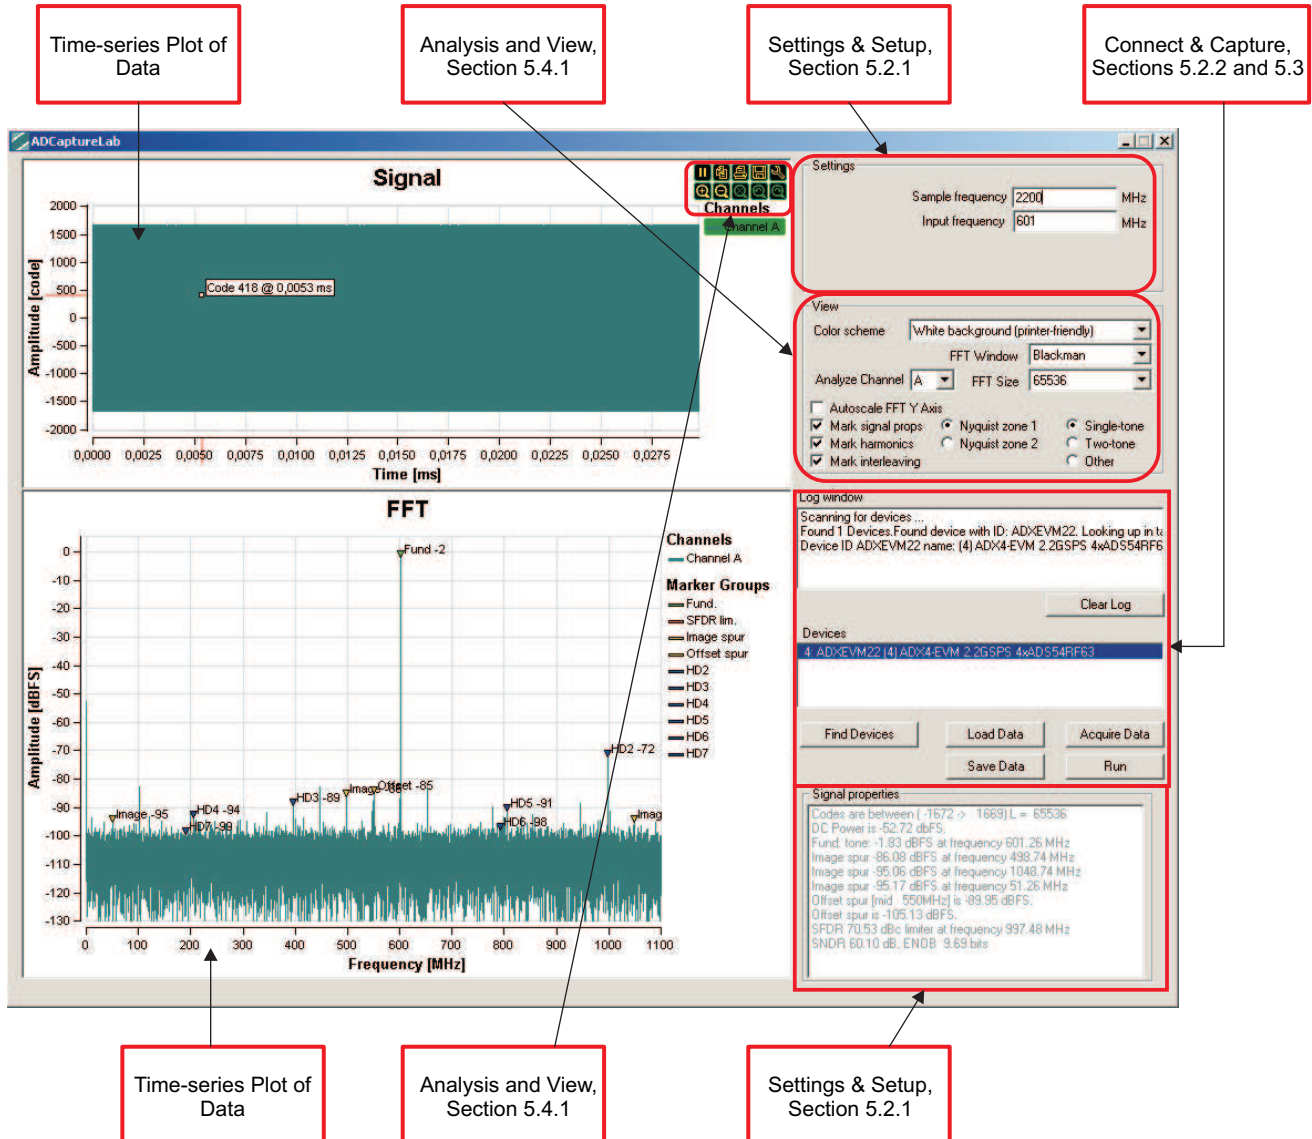

Figure 1. ADCapture Lab Main Window
1. To install the software, run EVM-setup.exe which is included on the CD delivered with your card. The window (Figure 1) will be shown.
Figure 1 shows the main window of ADCapture Lab. A detailed description of each part shown in the main window is given in the section shown in the figure.